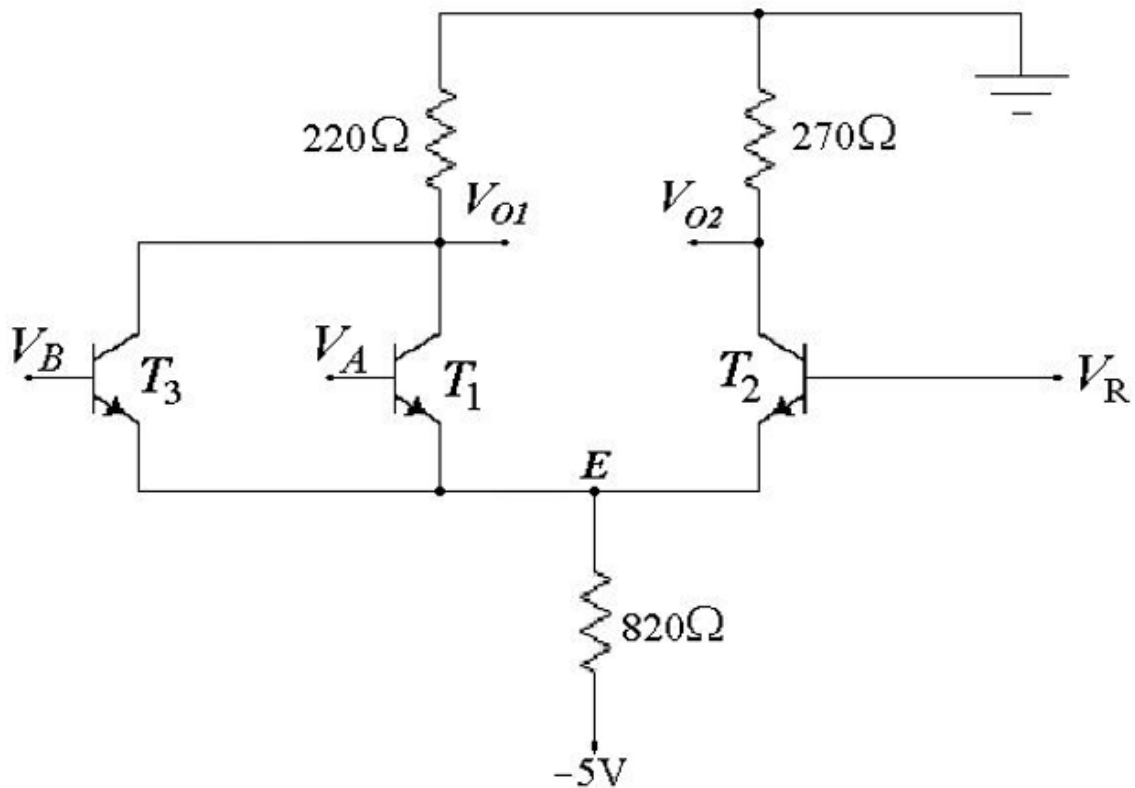

Figure 2 : Simplified ECL gate.
3. Construct the simplified ECL gate excluding the output stages as shown in Figure 2.
4. Let  $V(1) = -0.75$  V and  $V(0) = -1.75$  V. For different combinations of voltages, measure the two output voltages and record their values in Table I. Also, measure the voltage at point E in the circuit shown in Figure 2.
1. Analyze the circuit of Fig.2
2. Simulate circuit of Fig. 2, using PSPICE.